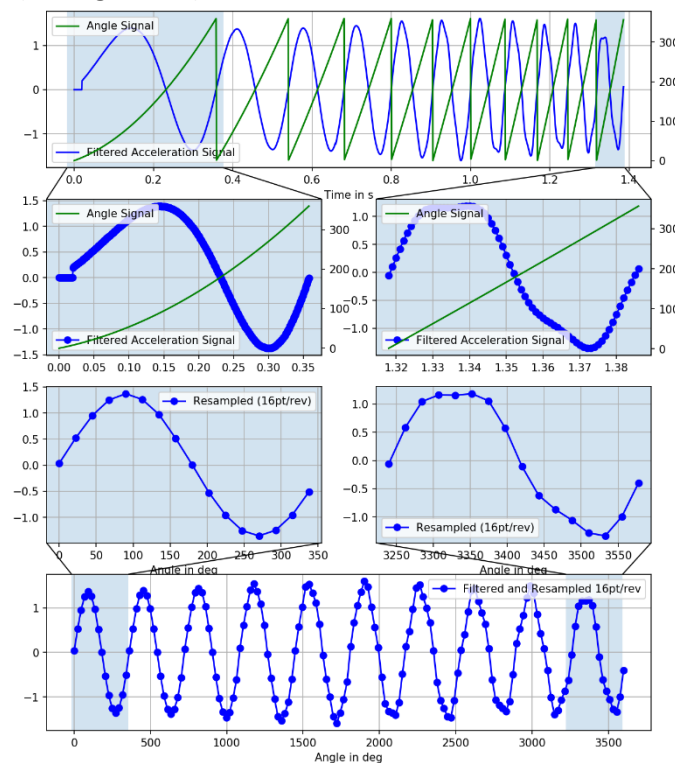

Figure 7-3: Resampling to a defined number of samples per revolution
- Due to the fact mentioned above that the numbers of samples per revolution is decreasing with increasing running speed, the signal will be resampled to a defined number of samples per revolution (see Figure 7-3).